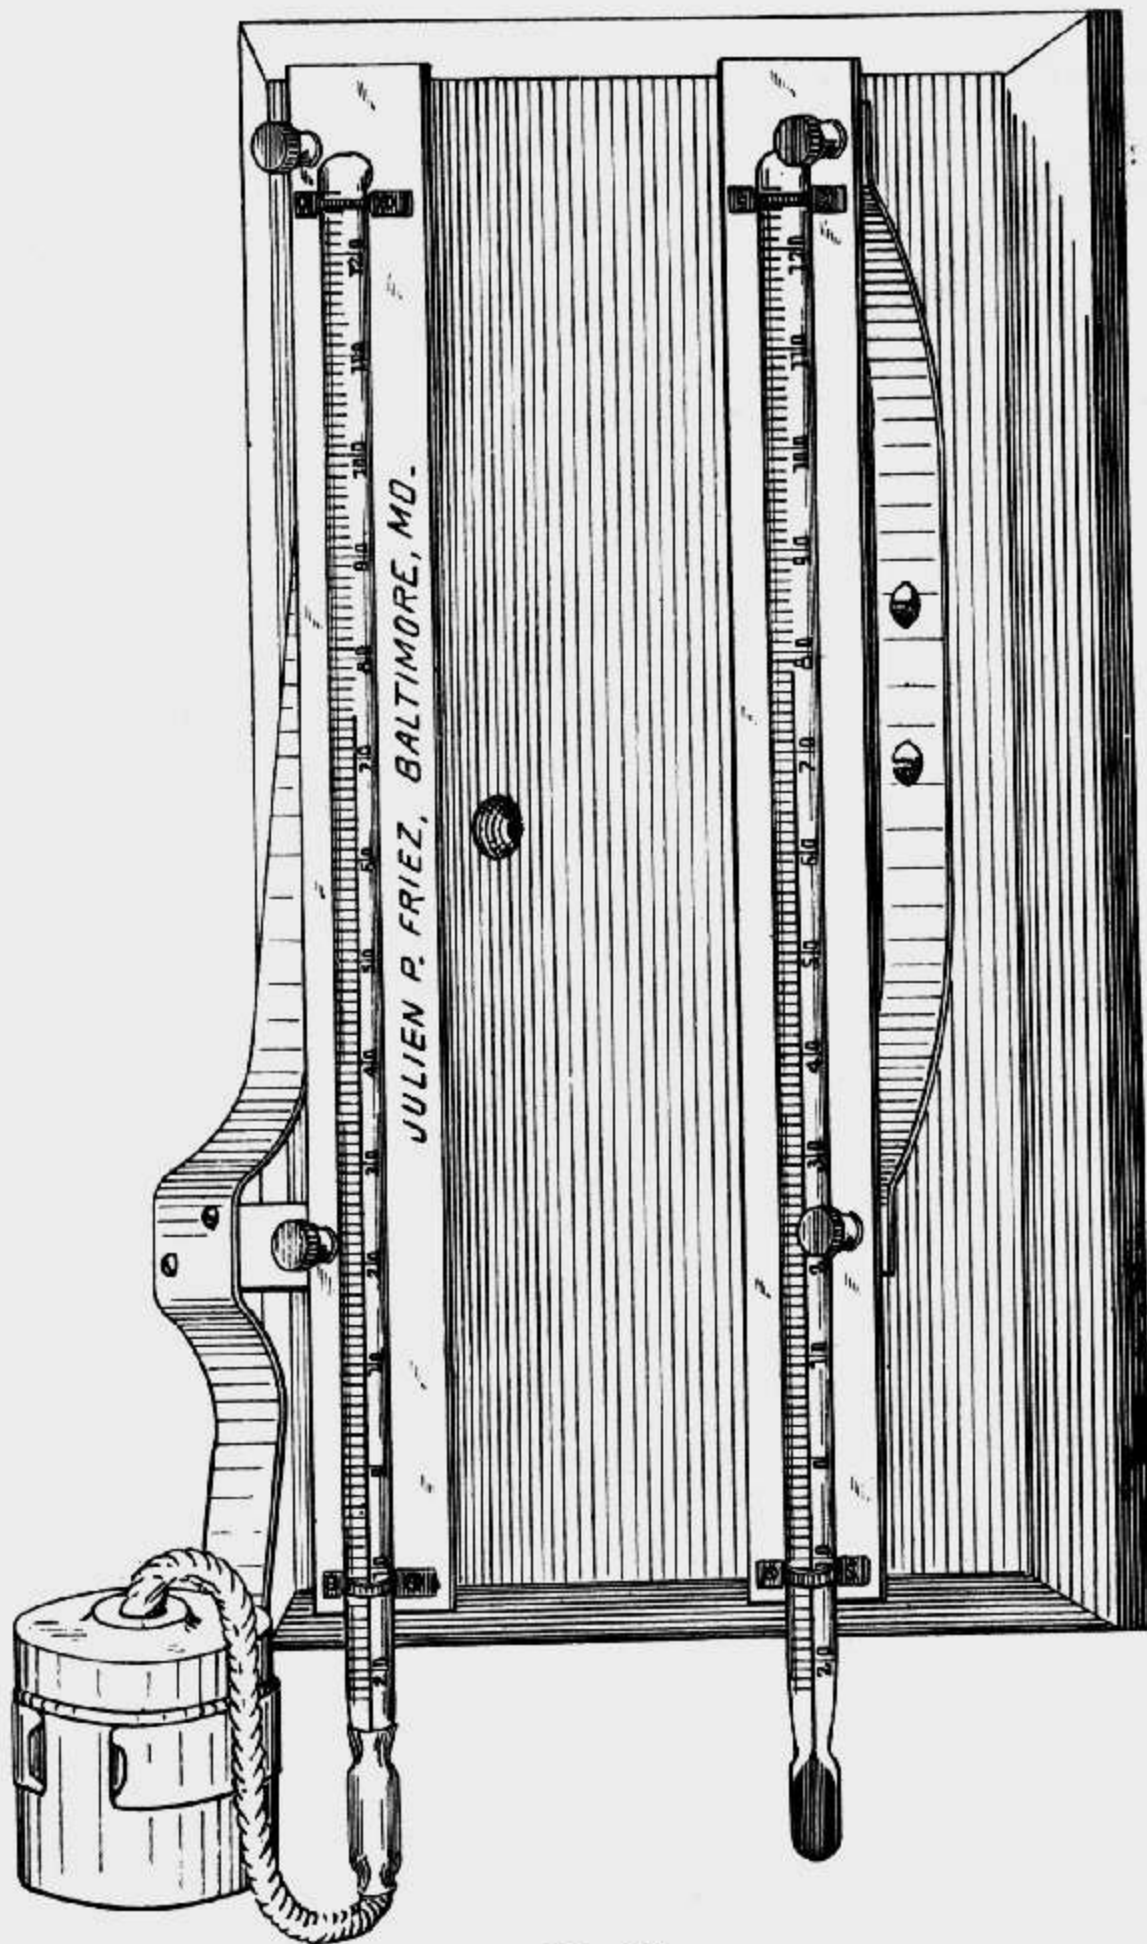

Fig. 18.
- Hygrometer, Weather Bureau Pattern, Fig. 18, consisting of two (2) Exposed Thermometers as shown above (1 for wet and 1 for dry-bulb), mounted on nicely finished board, complete, with wicking and nickel-plated water cup, price.....\$6.00